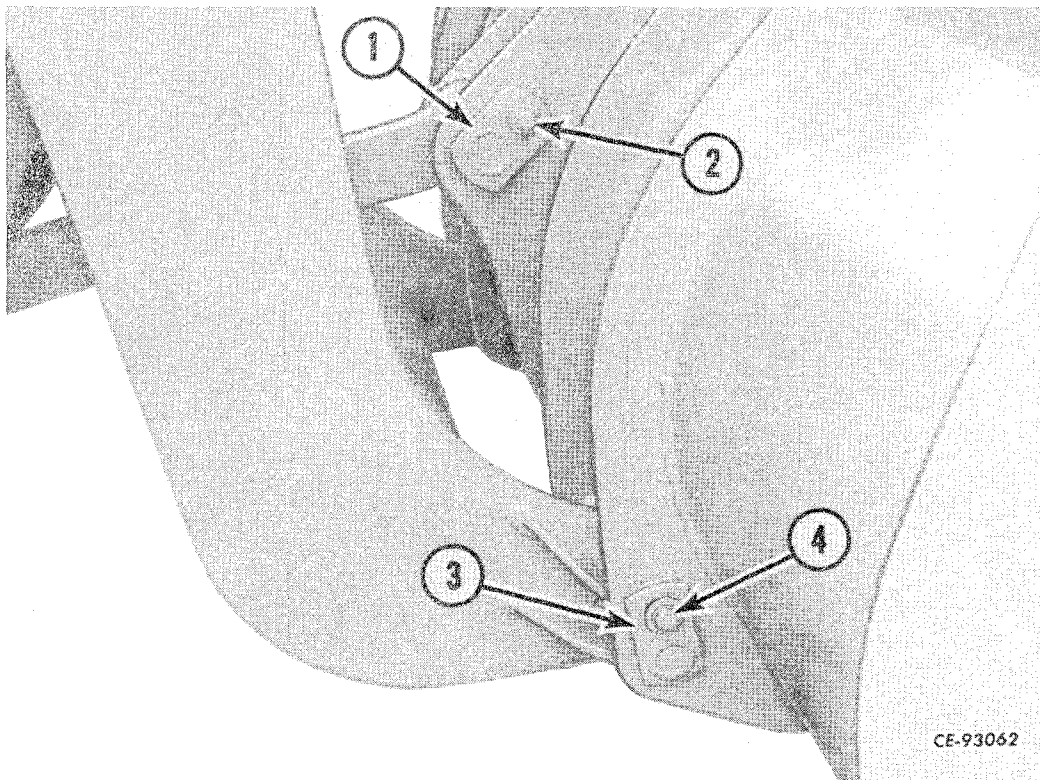

Figure 1-6
Remove the pin locking cap screws (2, Fig. 1-6) with lock washers and flat washers. Remove the pin (1) that attaches the bucket link to the bucket.
Place boom control lever in "HOLD" position. Remove boom pins (3, Fig. 1-6) and back tractor away from bucket.
To prevent loss of parts, install pins (1, 3, Fig. 1-6) in their respective bucket bores, looping cord rings over pins as they are installed. Thread locking cap screws (2, 4, Fig. 1-6) with lock washer and flat washers through pin-lock and into respective bores. Coat all pin shanks with a heavy, waterproof grease to prevent rusting.